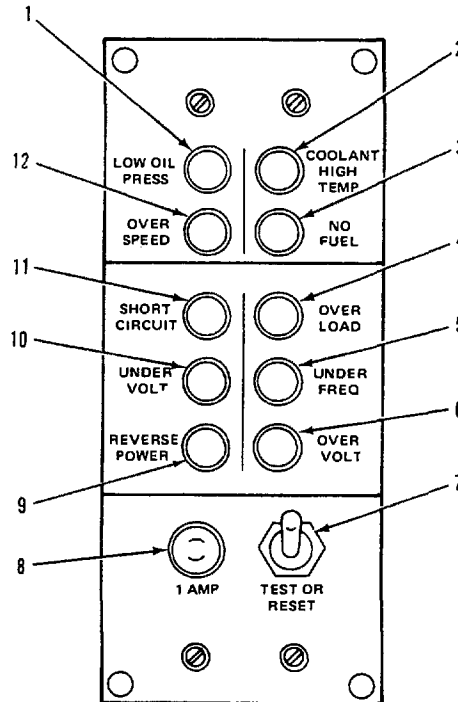

Figure 2-3. Fault Indicator Panel, Controls
- j. Set and hold TEST OR RESET switch (7, figure 2-3) in up position.